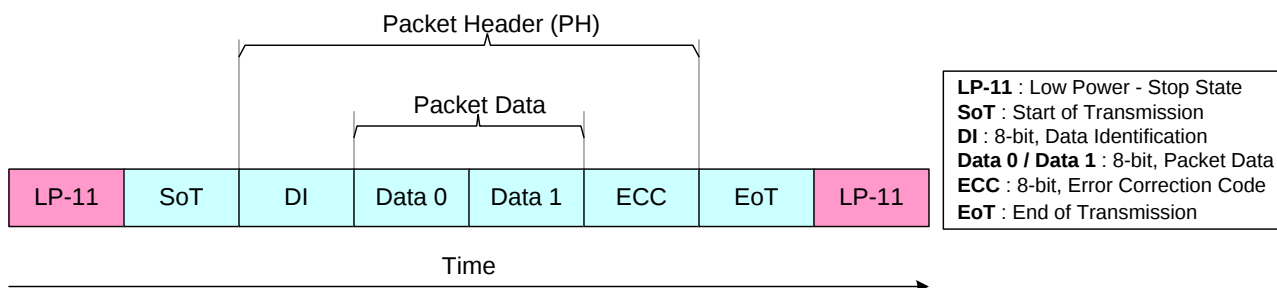
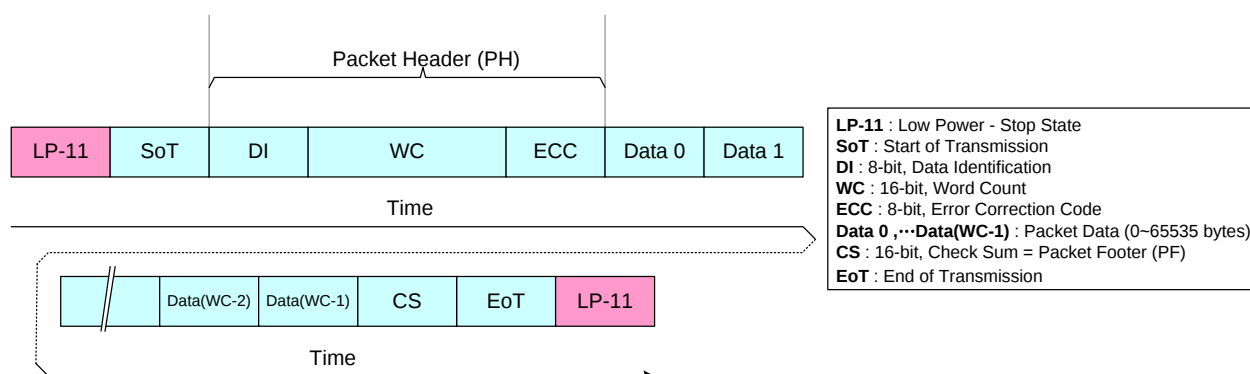

Figure 24: Short Packet (SPa) Structure
Figure 25: Long Packet (LPa) Structure
1. Figure 24 and Figure 25 present a single packet sending (= Includes LP-11, SoT and EoT for each packet sending).